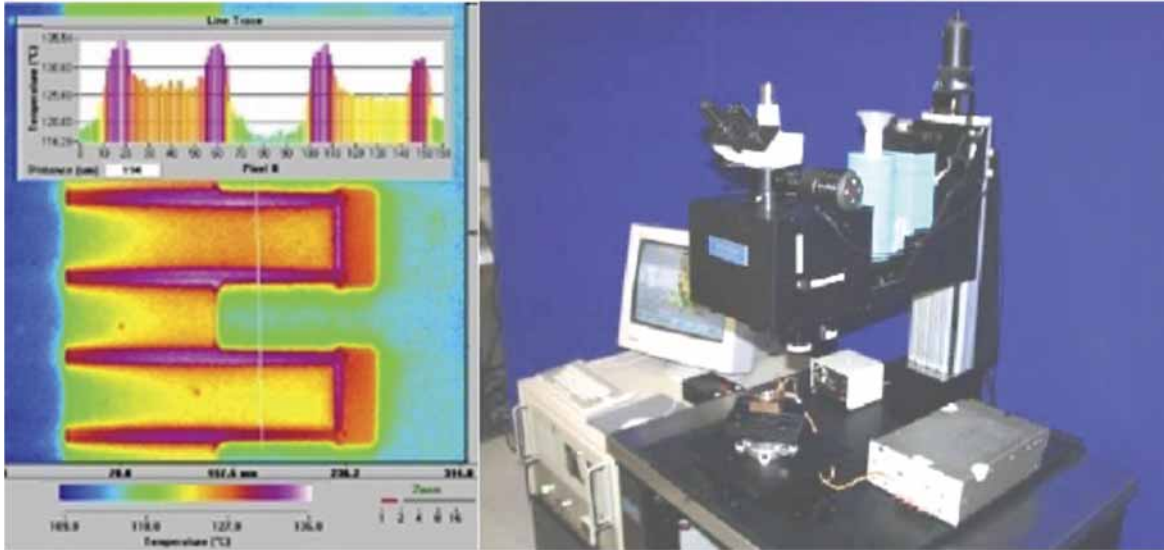

Figure 1. Thermal image (left) and thermal imaging system (right).
Infrared thermography is based on blackbody radiation physics. Blackbody radiation has been studied since the 19th century, and the concepts developed by scientists investigating the phenomenon apply directly to infrared (IR) thermography. IR thermography is a non-contact thermal analysis technique that directly senses heat from a circuit. In Figure 1, we show an example of a thermal image on the left and a thermal imaging system on the right. The camera in the system detects heat, much the way our eyes can see thermal data from a very hot object like a burning log. The advantage to this is that Infrared thermography is non-contact, and doesn't require a coating or film for use. The biggest disadvantage to infrared thermography is the spatial resolution. We'll see why this is the case in this article.